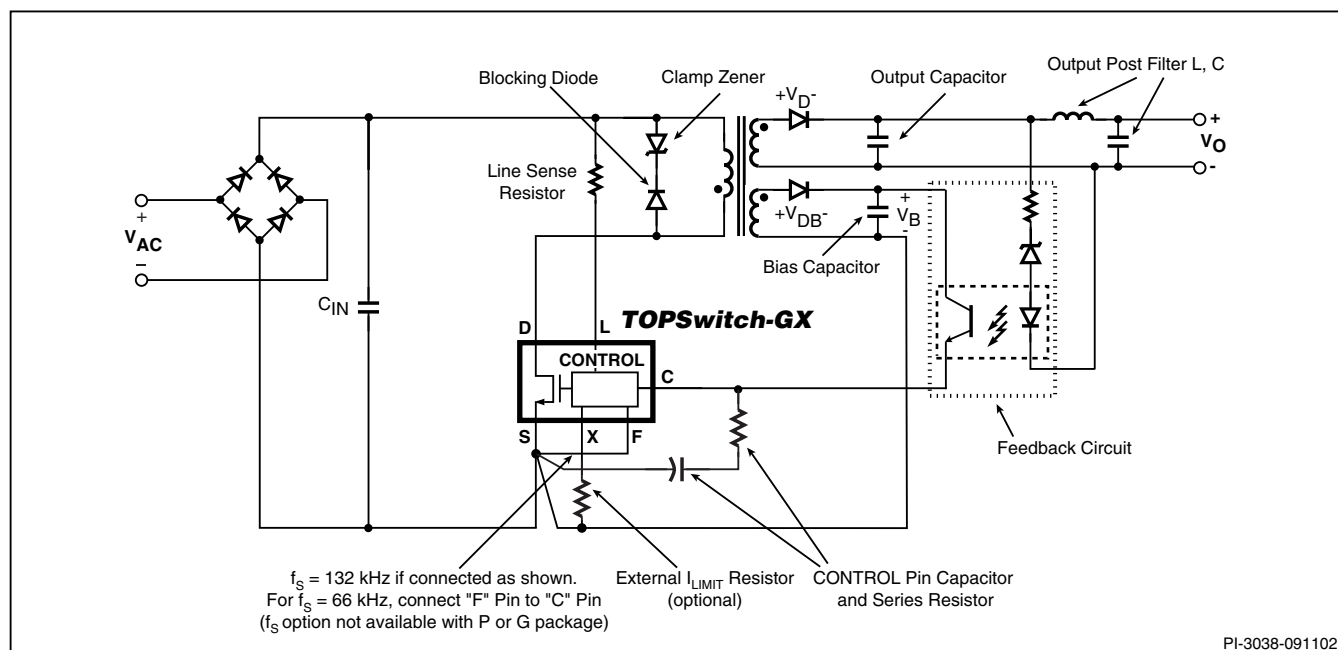
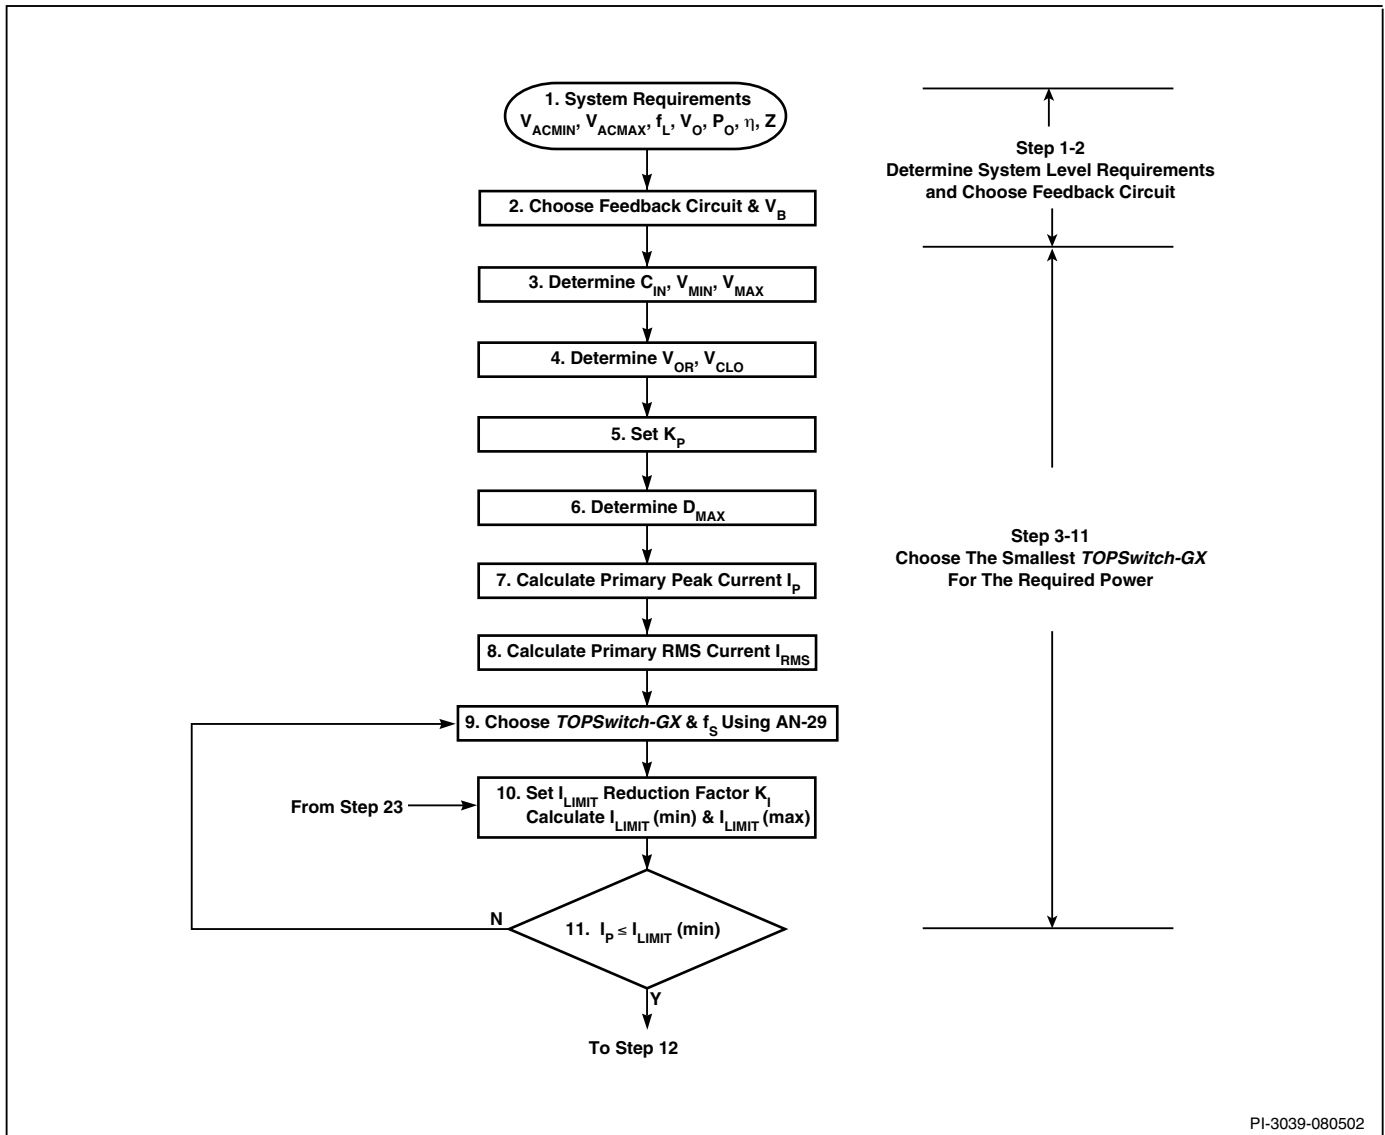

Figure 1. Typical TOPSwitch-GX Flyback Power Supply.
Figure 2A. TOPSwitch-GX Design Flow Chart. Step 1 to 11.
The basic circuit configuration used in TOPSwitch-GX flyback power supplies is shown in Figure 1, which also serves as the reference circuit for component identifications used in the description throughout this application note.
Figures 2A, 2B and 2C present a design flow chart showing the complete design procedure in 37 steps. With the basic circuit configuration shown in Figure 1 as its foundation, the logic behind this design approach can be summarized as follows:
4. Select all other components in Figure 1 to complete the design.